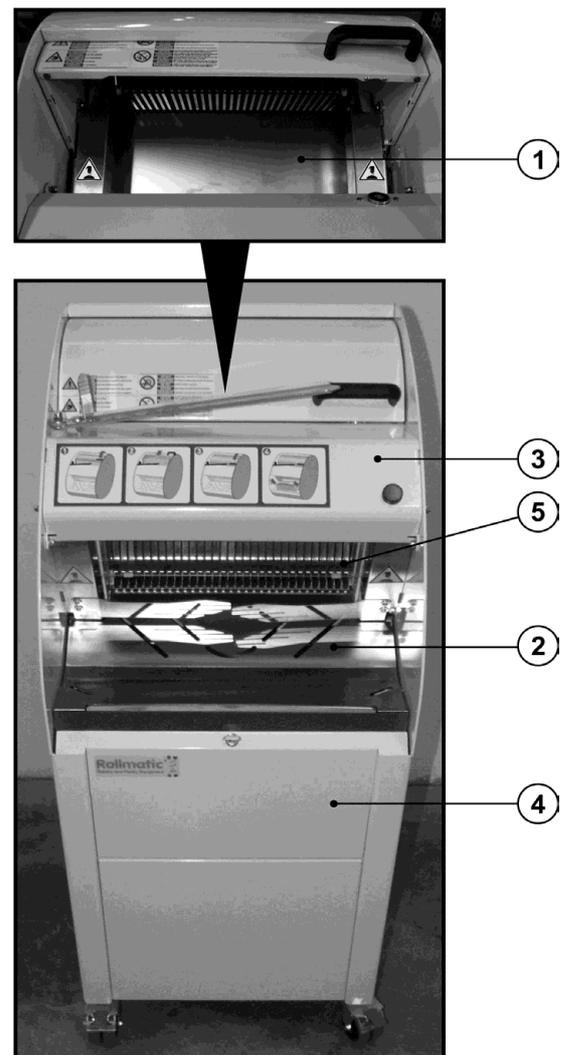

Figure 18
2. **Fixed guards.** These are all the steel protections fixed to the machine and for which at least one tool is needed to remove them. With reference to Figure 18, they are basically the following elements, already described in this manual:
- slide of the bread loading compartment, ref.1
- slide of the slice exit compartment, ref.2
- tile over the blade area, ref.3
- door, ref.4, for closing the compartment that houses the crumb collection drawer, and the following other elements that also act as fixed guards
- transparent plastic panel, ref. 5, at the top of the exit compartment to limit access to the cutting blades